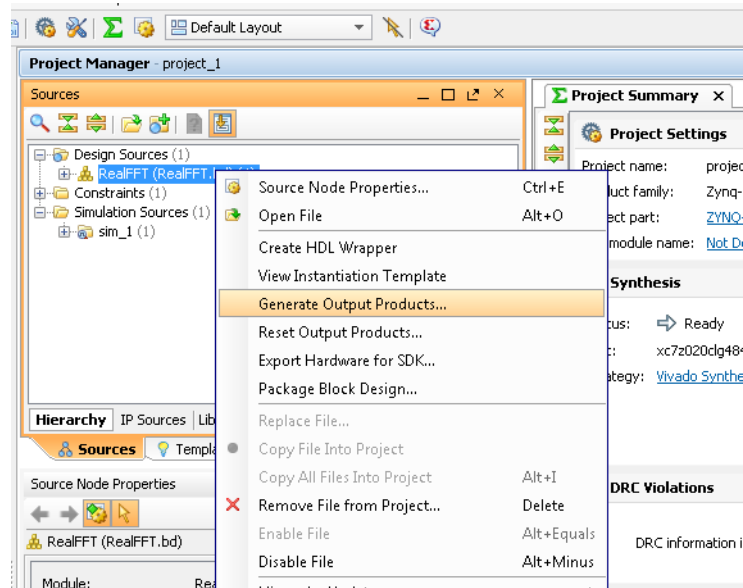

Figure 9-24: Generating Output Products
- In the Sources tab of Project Manager pane (Figure 9-24), right-click **RealFFT.bd** and select Generate Output Products.